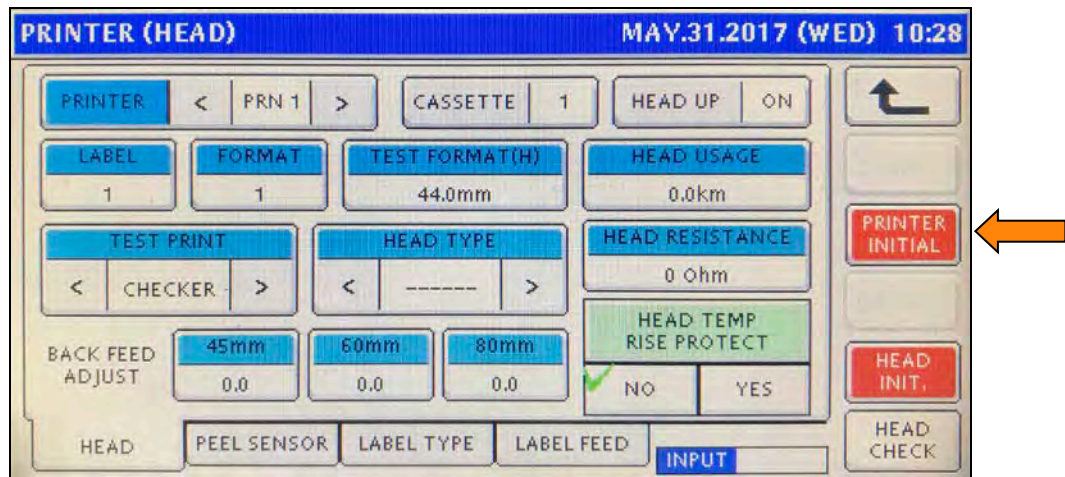

Figure 39. Printer Screen before Initialization
28. Initialize the printer. See Figure 39.